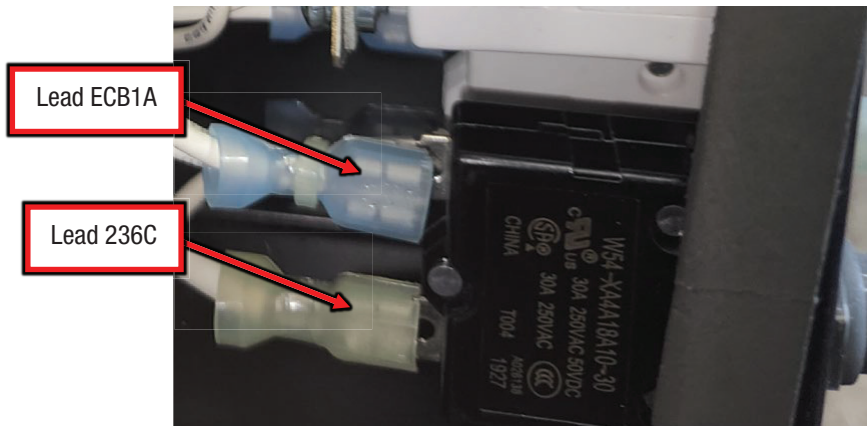

Figure F.2
- A.2. Label and disconnect the following connections on CB8, refer to Figure F.2.